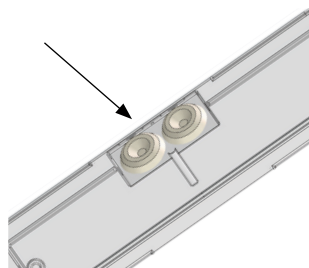

Fig. 1
- Mount the grommet and push connection cable(s) through the membrane and feed into luminaire (fig. 1). Permissible cables: 3 x 0.5 to 2.5 mm². Insulation class II: earth clamp only for through-wiring